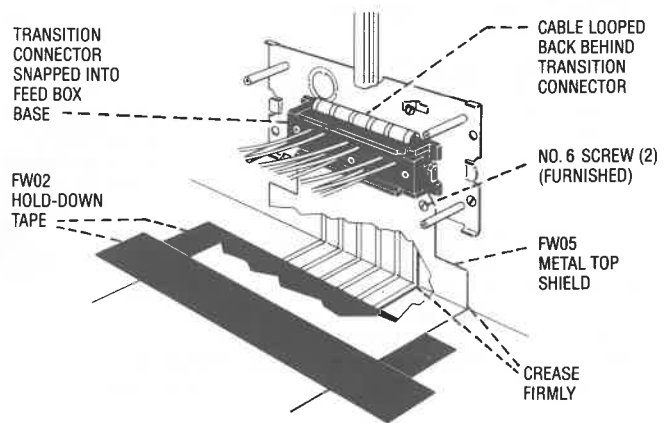

Fig. 11
A. Loop FLATWIRE cable under transition connector (for strain relief) and snap connector into feed box base (Fig. 11). Crease cable firmly at floor line and cross-tape to floor near crease. Continue installing cable to end of entire run as in Step 6, page 8.